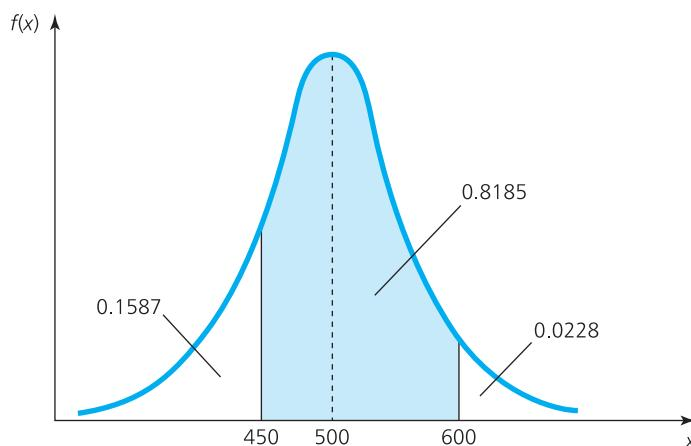

Figure 15.18 Probability that the supermarket runs out of milk
- We find the probability of running out of stock with 600 litres (shown in Figure 15.18) from: